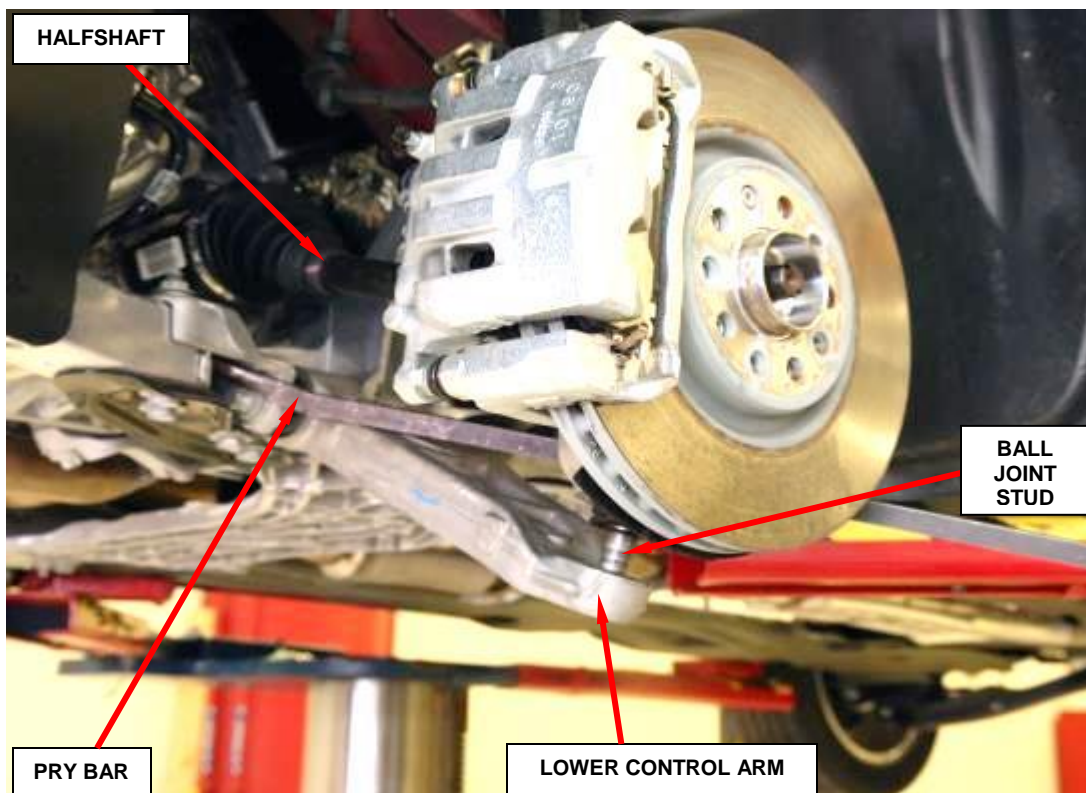

Figure 4 – Lower Control Arm
8. Insert a pry bar in the opening between the control arm front mounting bolt and the front fascia support beam (Figure 4).
10. Swing the steering knuckle outward and off the halfshaft end (Figure 4).